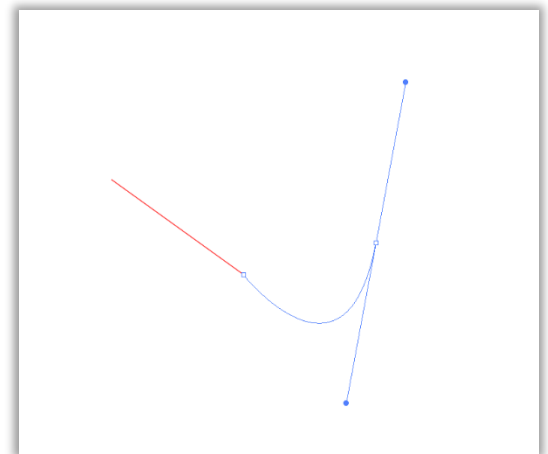

Figure 7: A demonstration of what making a curved line using the Pen Tool looks like.
- e. If you want to make a new shape that is curved, instead of just clicking and releasing to create a new vertex, you'll want to click and drag to curve the current edge (**Figure 7**)